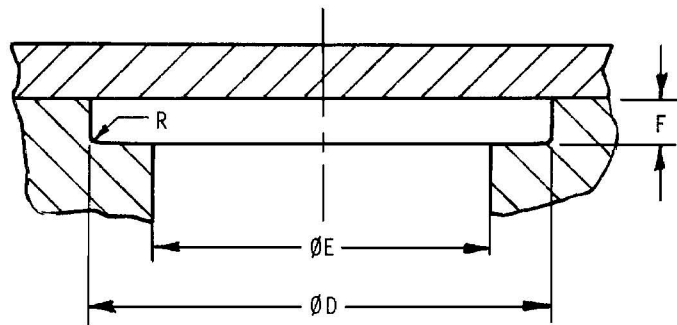
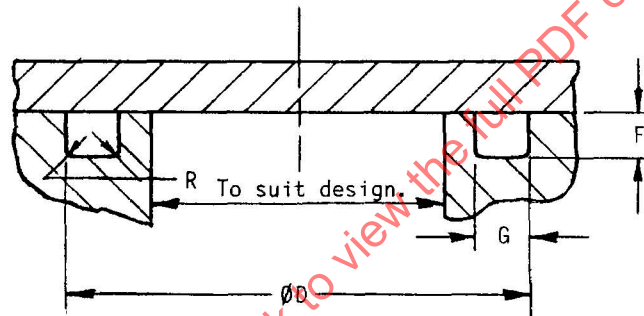

FIGURE 2 - Axial C-Ring Groove, Internal Pressure
FIGURE 3 - Axial C-Ring Groove, Internal Pressure
Figure 2 specifies the letter symbol dimensions for face type c-ring groove, internal pressure, without inner groove wall. Figure 3 specifies the letter symbol dimensions for face type c-ring groove, internal pressure, with inner and outer groove walls.
The corner radius R (see Figures 2, 3, and 4) at bottom of groove shall be as specified in Table 1. The groove edges shall have 0.1 to 0.3 edge break.
- 3.5.4 Port Inside Diameter, ϕE , Open Cavity: The maximum port diameter, $\phi E \text{ max}$ for open cavity (without inner groove wall, see Figure 2), is calculated from the following equation: